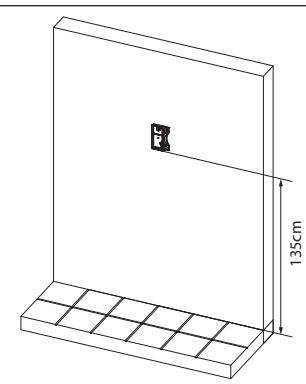
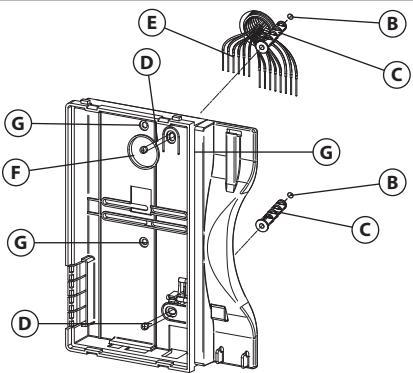

Fig. 5
Fig. 6
- Put the base of the unit on the wall at approx 135cm from the finished floor (Fig. 5) to mark the points for the fixing holes (B) (Fig. 6) remembering that the wires (E) (Fig. 6) must be fed through the hole (F) (Fig. 6). If you use the flush mounting box 503, embed it into the wall vertically at approx. 140cm from the finished floor and the base.
- Following Fig. 6, make the holes (B), insert the wall plugs (C) and fix the base with the screws (D) feeding the wires (E) into the hole (F). If you have used the box 503, fix the base to the wall through the holes (G) using the screws (D).